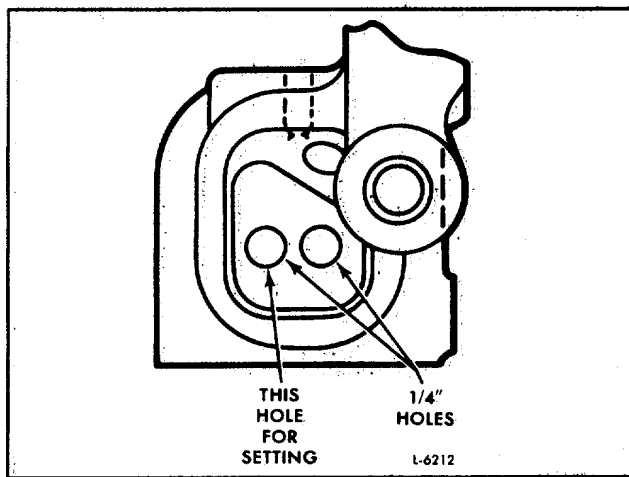

Fig. 3. - Throttle Delay with Multiple Fill Holes
5. Insert pin gage J 25558 with the "go" (green, .069") end in the cylinder fill hole. If the throttle delay housing has multiple holes, use the hole indicated in Fig. 3.